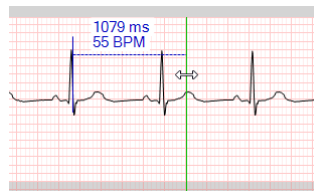

Figure 400 – Editing a defined Marker
2. Press and hold down the left mouse button and move the cursor to a new location (see Figure 400). The measurement limit(s) will move along with the cursor.